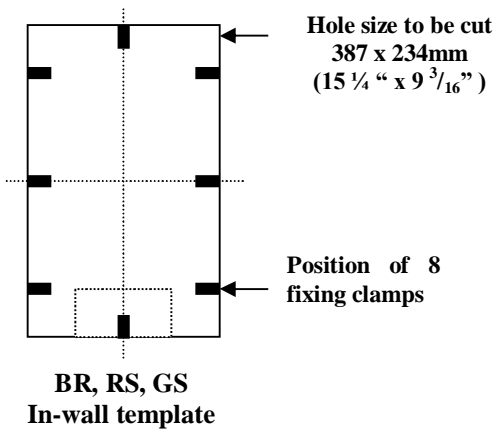

Fig 1
1. Use template to locate position of cut out. Fig 1 for BR, RS & GS In-Ceiling Products and Fig 2 for Radius In-Ceiling products. The adhesive backing allows for repositioning a number of times.